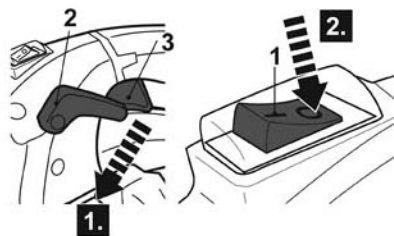

Fig. 18
- > Release the throttle trigger (3) (Fig. 18, step 1).
- > Move the lock-on lever (2) downwards to release the throttle trigger (3) if the product is operated under continuous use.
- > Set the ignition switch (1) to the OFF position **O** (Fig. 18, step 2).